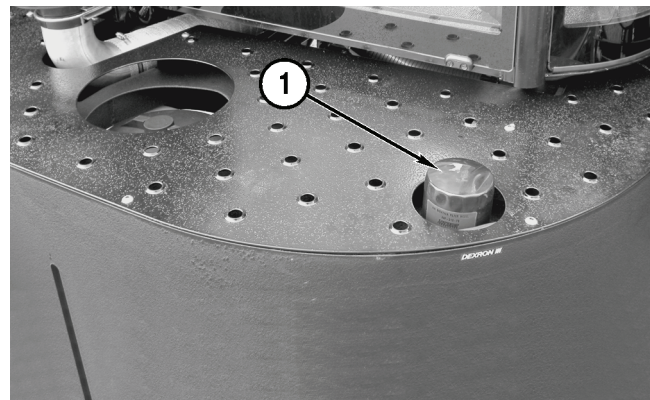

Figure 5-41
*NOTE: The hydraulic fluid fill location (**Figure 5-41, 1**) has a screen in the fill neck. Fill the reservoir slowly to reduce the possibility of spilling.*